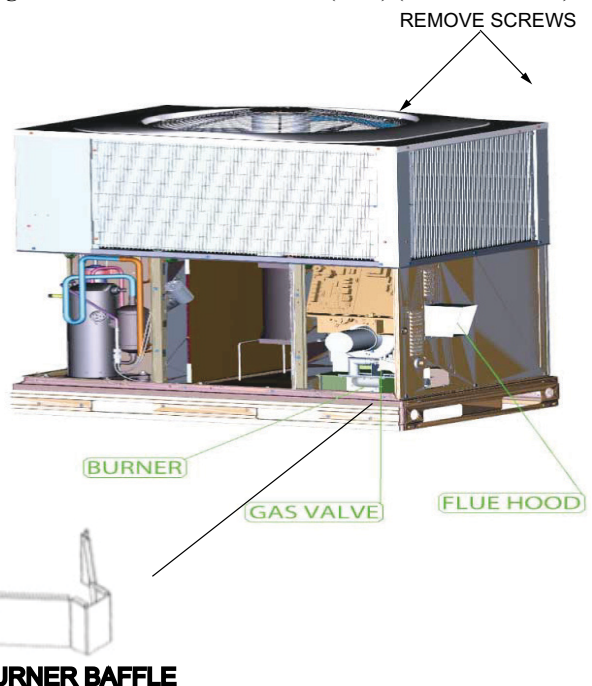

Fig. 24 – Blower Housing, Flue Collector Box and Burner Heat Exchanger Assembly (Ultra Low NOx)
2. Remove the 11 screws holding the flue collector box cover (See Fig. 24) to the heat exchanger assembly. Inspect the heat exchangers.
Unit is equipped with a direct spark ignition 100 percent lockout system. Ignition module (IGC) is located in the control box (See Fig. 24). Module contains a self-diagnostic LED. During servicing, refer to label diagram or Table 8 in these instructions for LED interpretation.
Ultra Low NOx Burner Baffle Inspection/Cleaning (See Fig. 24.)